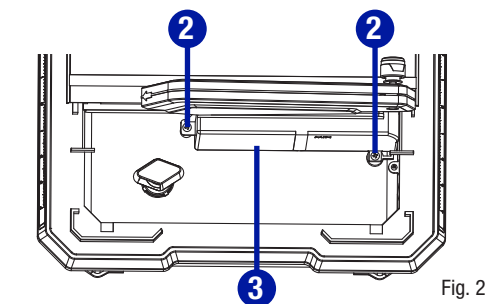

Fig. 23
- Loosen cross-screws (2) with the star-head screwdriver (not supplied) and pull off lower protective guard (3). (Fig. 23)
- Place one new cutting disc (4) on inner flange (5) with arrows on cutting disc going in the counter-clockwise direction.
- Attach the outer flange (6), the double "D" flats on the outer flange align with flats on motor shaft.
- Screw hex nut (7) onto motor shaft (8) clockwise.
- Attach the straight wrench to the hex nut (7).
- Lock motor shaft (8) to prevent turning using angle wrench.
- Tighten hex nut (7) clockwise using straight wrench.